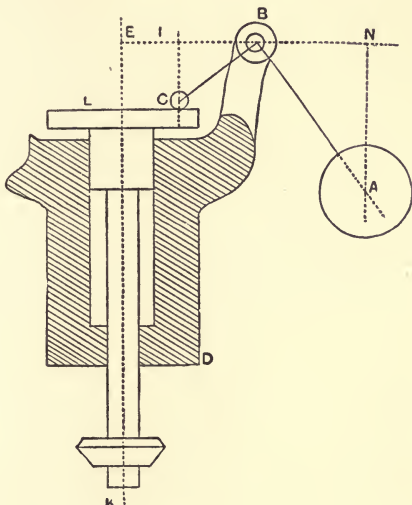

Fig. 2.
3. In the governor shewn in outline in figure 2 the sleeve  $BD$  is free to slide up and down on the spindle  $KL$  and rotates with it. The bell-crank lever  $CBA$  carries the ball at  $A$  and a roller at  $C$ . The control is exercised by the weights of two balls, each  $W_1$  lbs., the weight of the sleeve,  $W_2$  lbs., and the thrust  $S$  lbs., of a spring in compression, placed in the annular